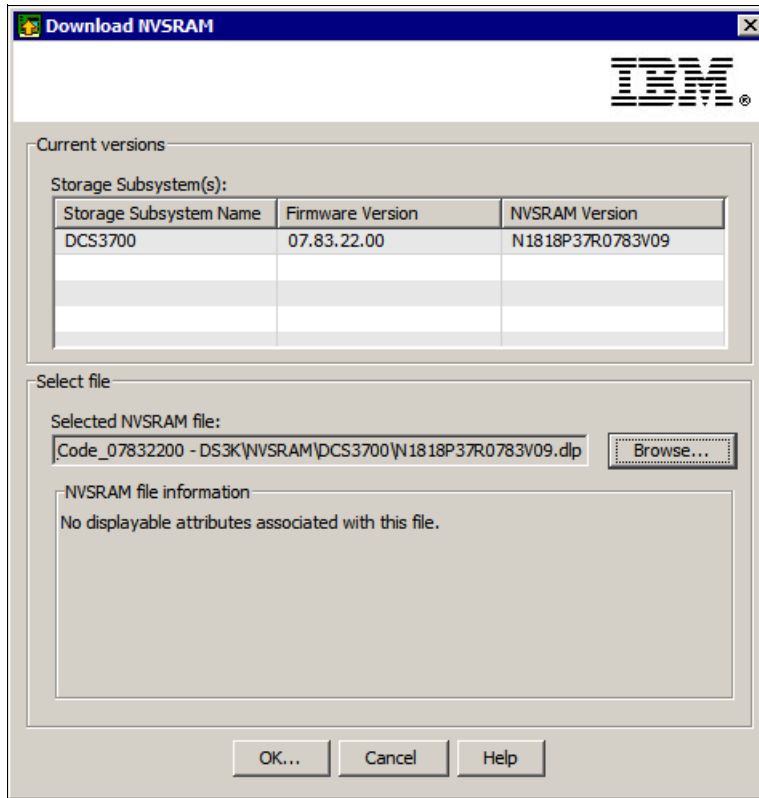

Figure 14-28 Download NVSRAM with the NVSRAM file selected
- b. Click **Browse** to select the appropriate NVSRAM file (either single controller or dual controller NVSRAM) for your DCS3700 storage subsystem (Figure 14-28).